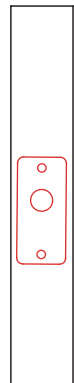
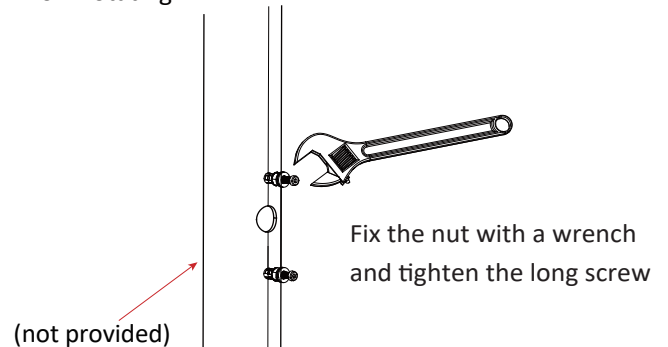

Fig. 4
Fig. 6
1. Drill holes on the pole and insert the petal nut into the drilled hole for pre-fixing. See Fig. 4, Fig. 5 and Fig. 6.